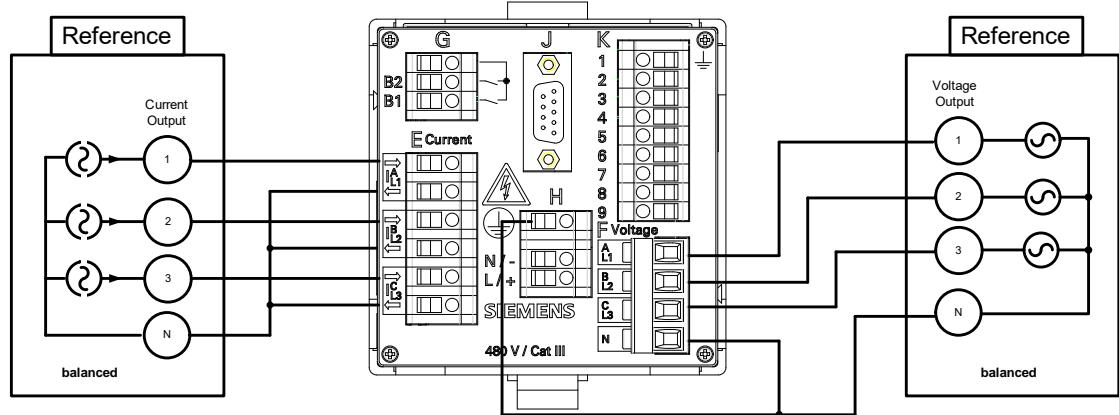

Fig. 10-11 Measurement Setup for Phase Angle
- ❖ Set up the measurement as shown in figure 10-11.